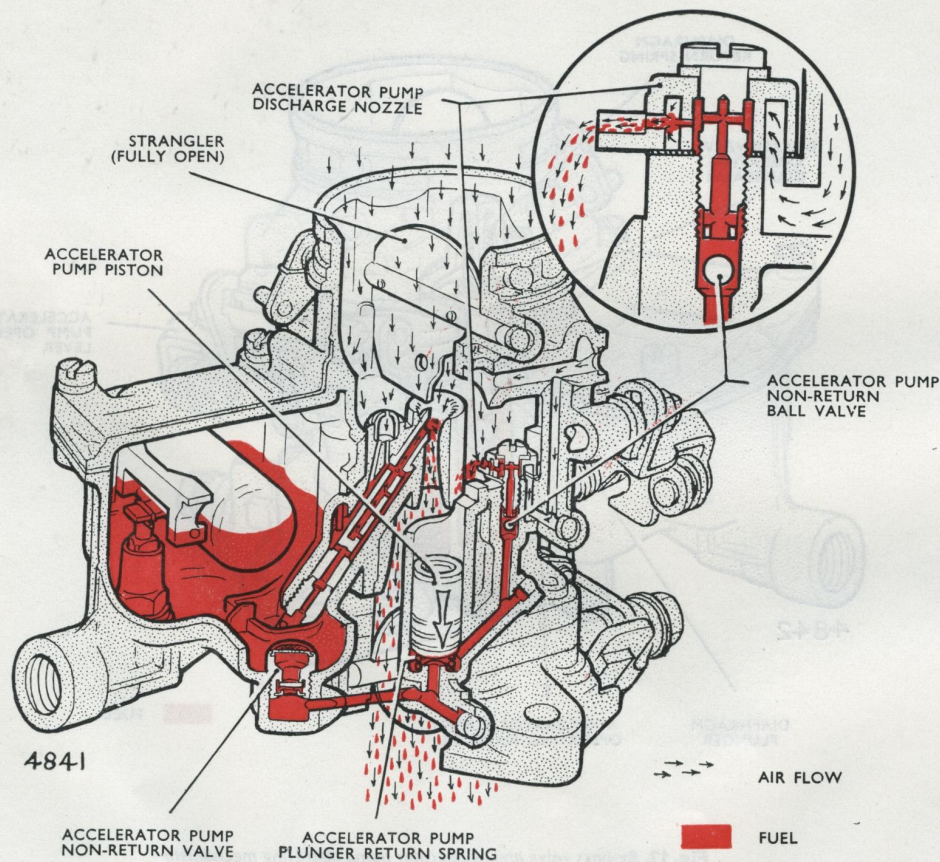

Fig. 13. Accelerator pump operating
Some carburetors are fitted with an accelerator pump nozzle with a sloping end as shown in inset 'A' of Fig. 13. This type of nozzle allows fuel to be drawn from it when the air velocity, past its sloping end, is high enough to create the depression required
The pump discharge nozzle consists of a small die casting shown in section in the inset of Fig. 13. Fuel is fed into the nozzle centre and discharged under
Fig. 13 shows the accelerator pump in action. When this occurs the pump suction valve in the float chamber closes and the delivery valve, a steel ball, is lifted off its seat as shown. There is no spring above the steel ball.
- (f) Check that the ball beneath the screw securing the pump discharge nozzle is in position. See Fig. 13. It can easily be lost in dismantling the carburettor if the body is inverted after removal of the screw securing the pump discharge nozzle, or if the accelerator pump is operated with the screw removed.
- (a) Make certain the calibrated orifice in the pump discharge nozzle and the drillings in the screw securing the nozzle through which the petrol must pass on its way to the pump nozzle are clear. See inset Fig. 13.